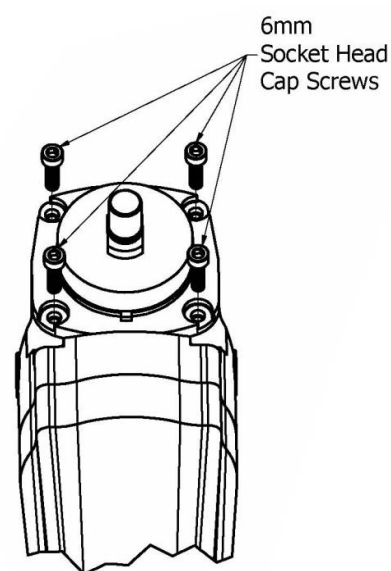

FIGURE 2 - Remove Screws
4. Using a 5mm Allen or hex wrench, remove quantity (4) socket head cap screws from the head of grinder at locations shown (see Figure 2). Do not remove the grinder head. Save the screws to reassemble the grinder if it is removed from the Sink BULL™.